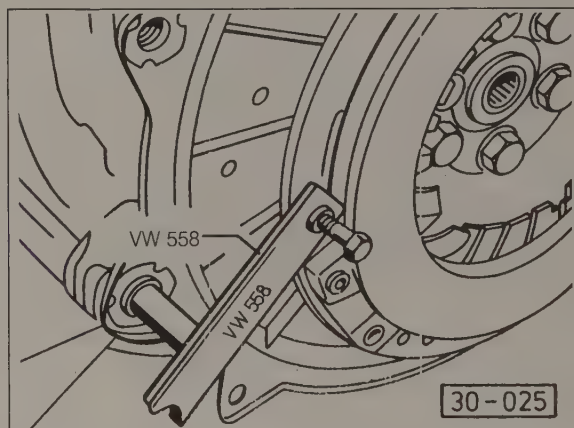

Fig. 5-6. Holding fixture used to remove clutch pressure plate assembly.
4. Remove the six center mounting bolts and remove the clutch pressure plate from the crankshaft. Use of the holding fixture is illustrated in Fig. 5-6.
5. Position the clutch pressure plate on the crankshaft. Using thread locking compound on new bolts, position the washer and thread the bolts into place. The holding fixture shown earlier in Fig. 5-6 can be used to hold the pressure plate. Torque bolts without shoulders to 75 Nm (55 ft.lb.). Torque bolts with shoulders to 100 Nm (74 ft. lb.).